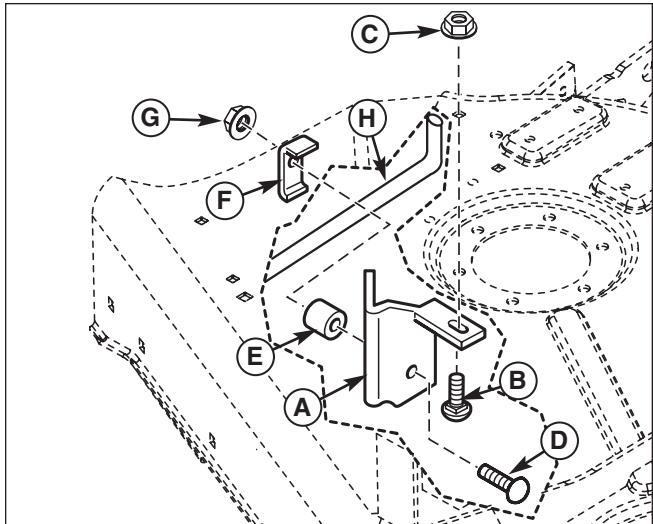

Figure 3. Install Discharge Baffles - 38" Mower
1. Install discharge baffle (A, Figure 3) using 1/4-20 x 3/4 carriage bolt (B) and 1/4-20 locknut (C). Do not tighten hardware at this time.
2. Install 5/16-18 x 1-1/4 carriage bolt (D), spacer (E), bracket (F) and 5/16-18 locknut (G) as shown.